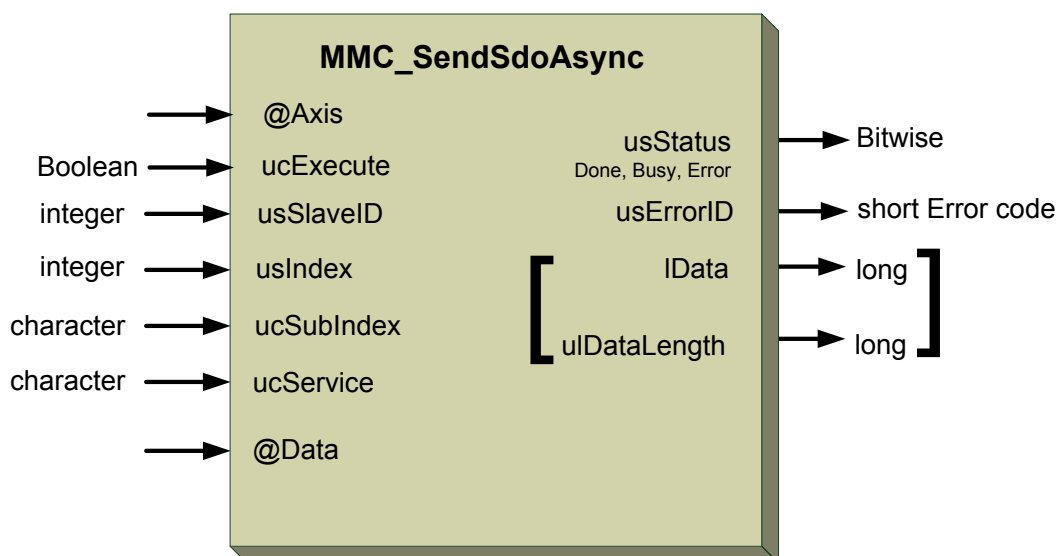

Figure 16-69: MMC\_SendSdoAsync function block
**Figure 16-69** describes the function block for MMC\_SendSdoAsync as applied within the IEC 61131 programming.